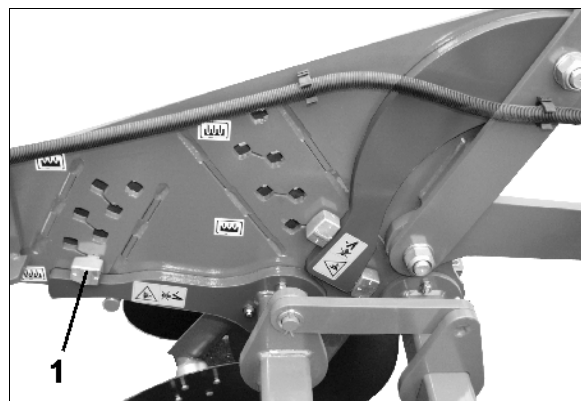

Fig. 30
Depth control of the concave discs via the rear roller with the aid of an eccentric pin on the inserting bar of the rear disc row (Fig. 30).
- Reset the eccentric pin (Fig. 30/1)
- Turn the eccentric pin (Fig. 30/1)